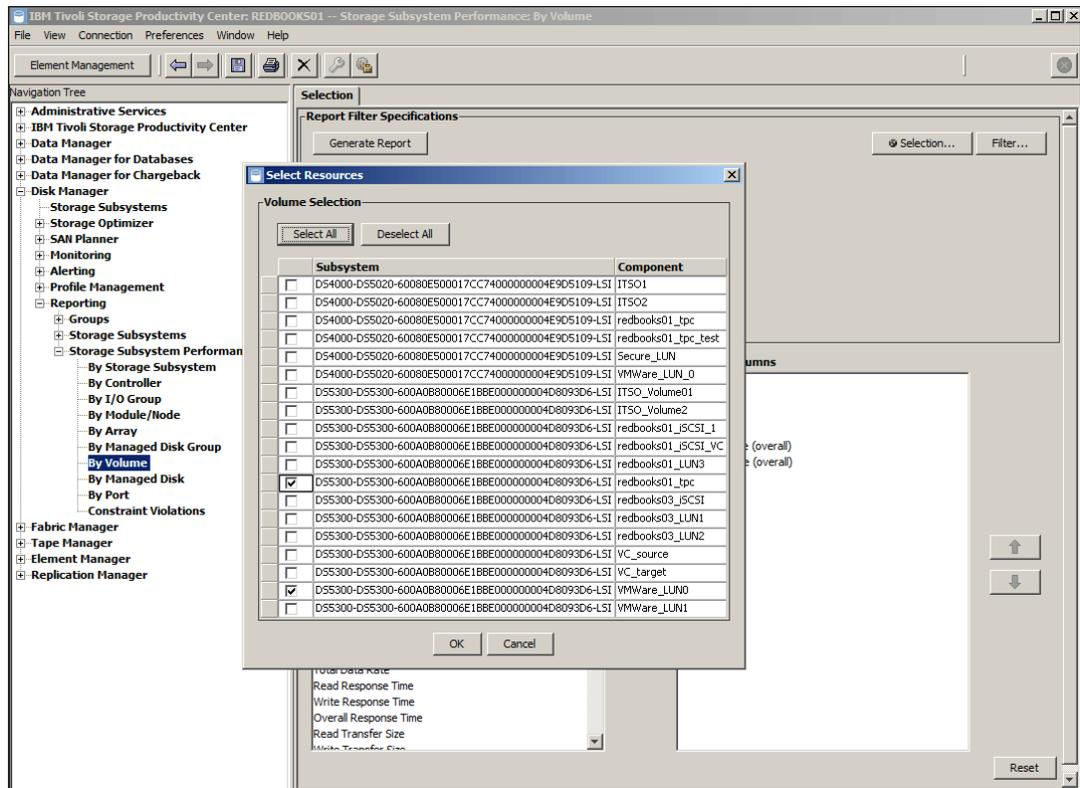

Figure 9-43 Select volumes from Volume Selection
- Next select the storage subsystem to report on. Click **Selection** to bring up the Select Resources window. In our example, we select two volumes from a DS5300 storage subsystem, as shown in Figure 9-43.